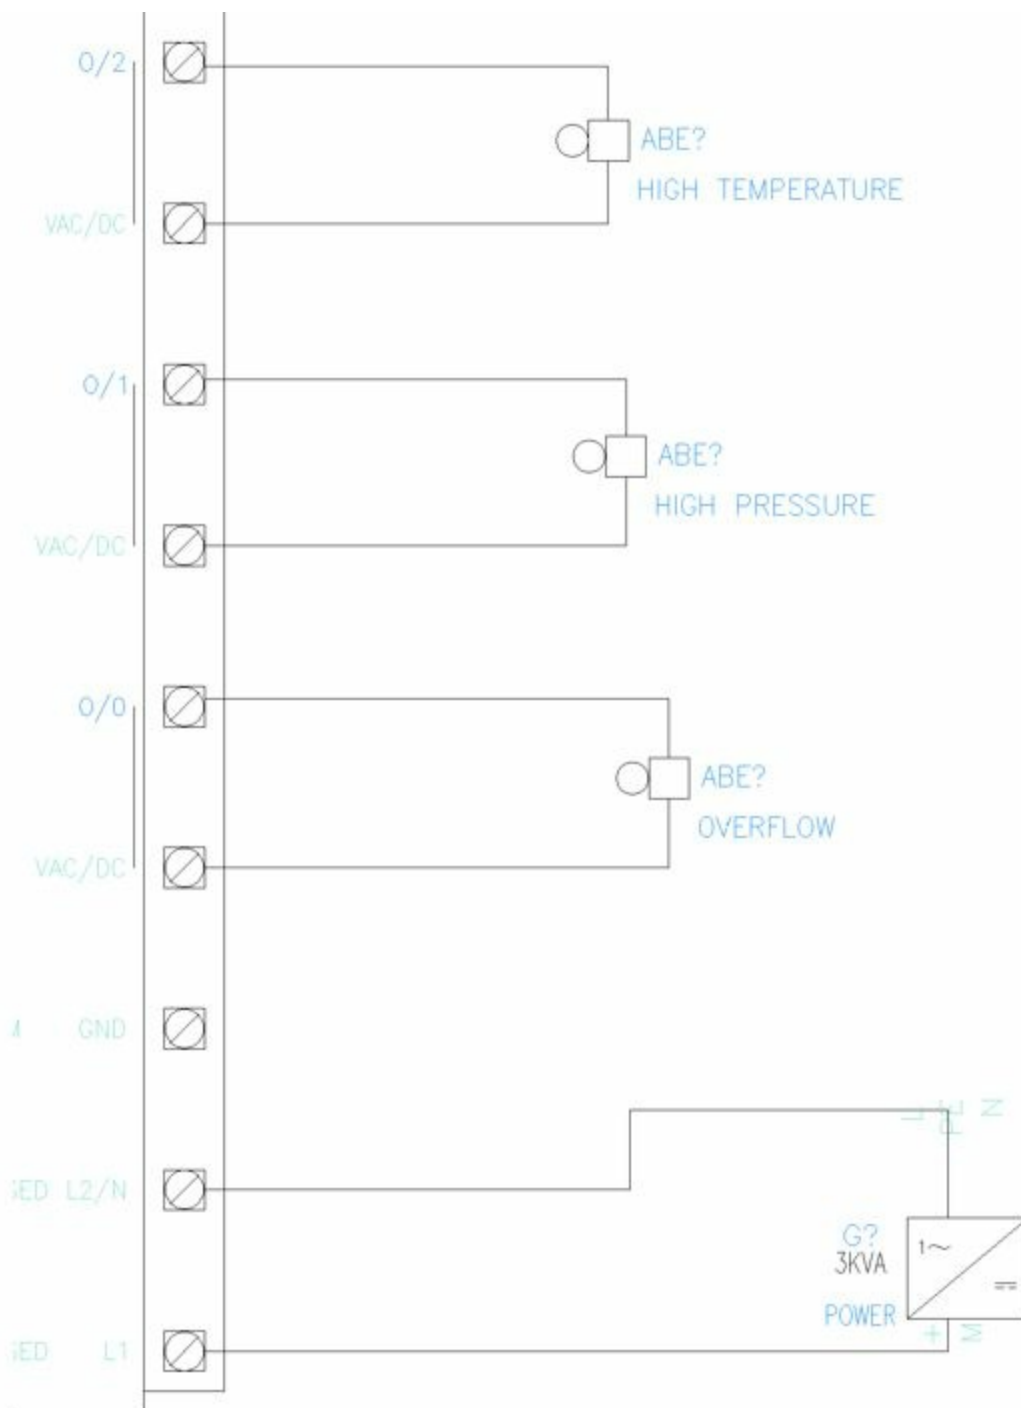

Figure-61. Adding components to the output
- Using the **Icon Menu** tool, connect all the components to the circuit; refer to Figure-61.